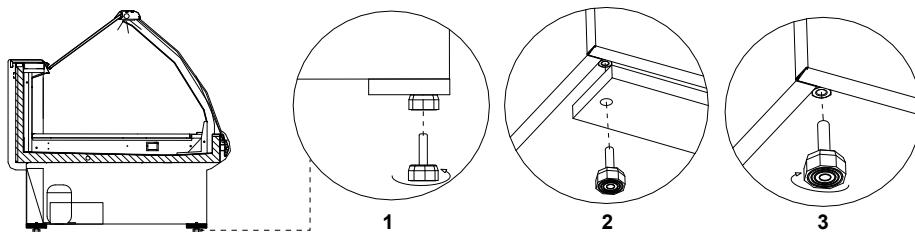

Fig.2 Removing the wooden platform
- Unpack the device and remove the wooden platform from the basis (does not concern Grenada devices and mobile devices) Fig.2 (p.18)